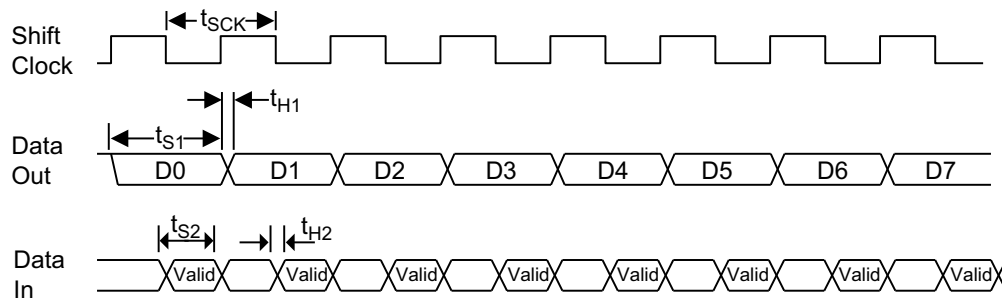

Figure 128. Timing Waveform for the UART Module
► **Notes:** The symbols shown in Figure 128 are defined as: